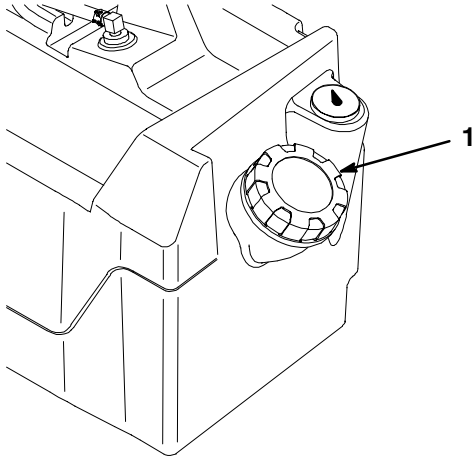

Figure 2
2. Clean area around fuel tank cap (Fig. 2).